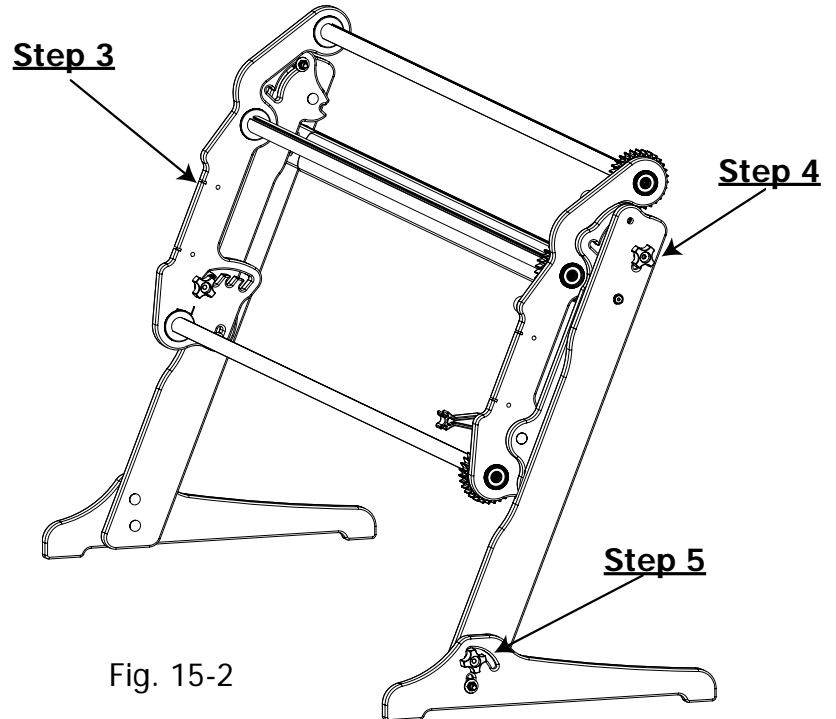

Fig. 15-2
- ⚙ **Step 3:** Top rail section pivots down. (As seen in Fig. 15-2)
- ⚙ **Step 4:** Retighten knobs outside on both ends of frame. (As seen in Fig. 15-2)
- ⚙ **Step 5:** Loosen knobs outside base legs on both sides of frame. (As seen in Fig 15-2)